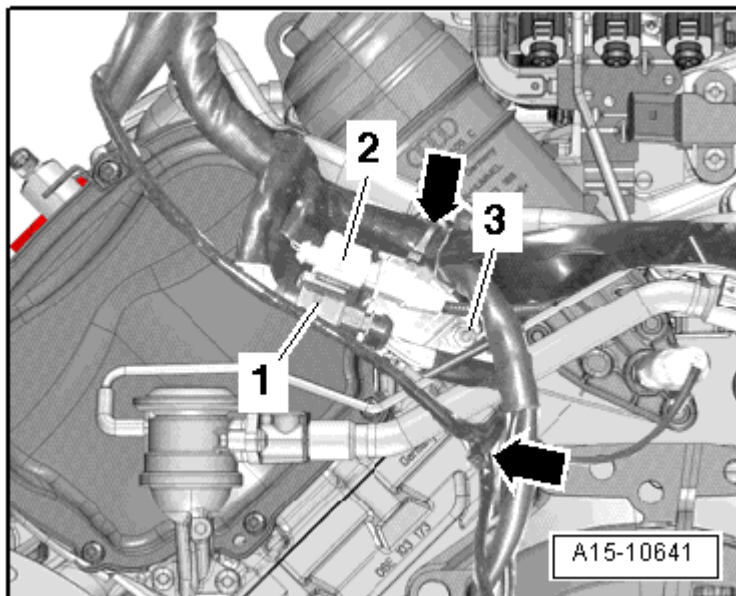

Fig. 9: Identifying Electrical Connectors On Left Rear Of Engine
- Connector location, refer to **Fig. 9**